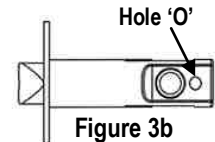

Figure 3b
- The guide will locate in Hole 'O' of the latch to help maintain positioning. (Figure 3b)